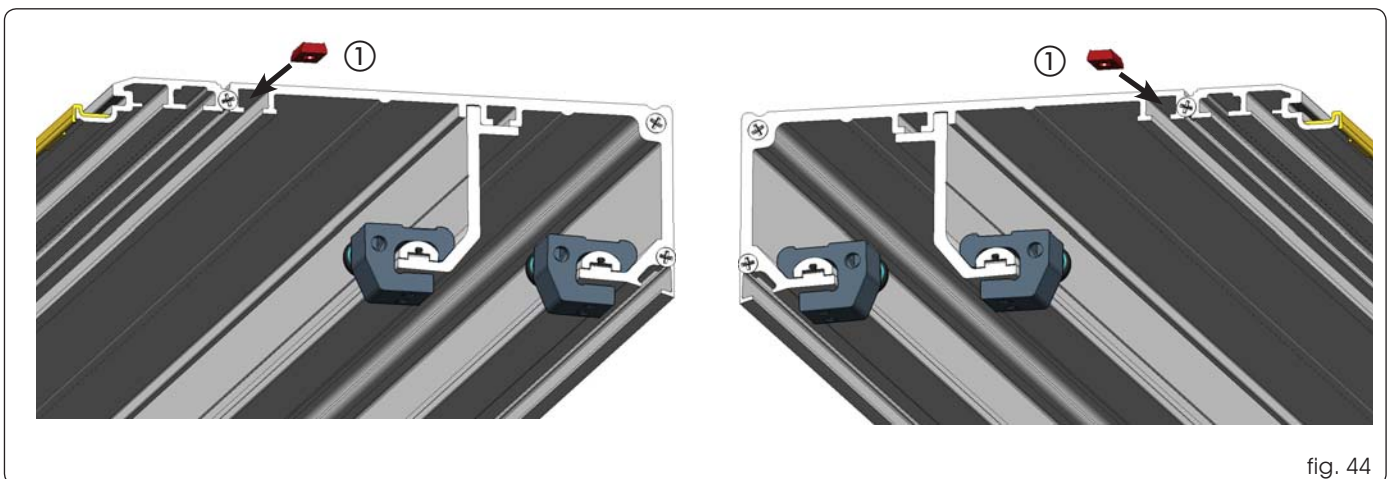

fig. 44
You must also install the 3 guard securing brackets - two side and one centre - by inserting the side plates fig. 44 ref. ①